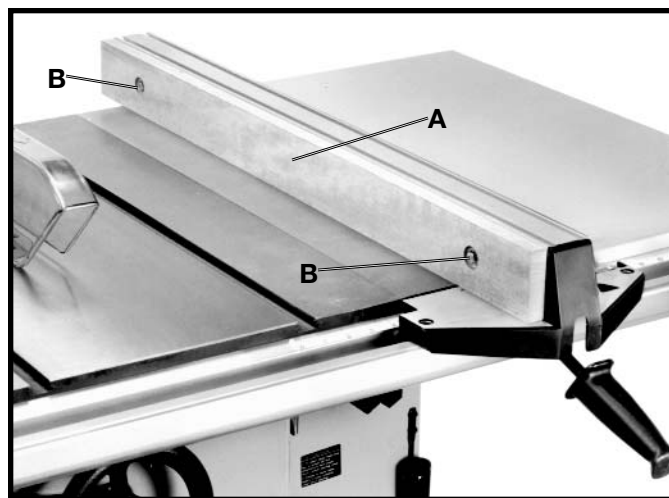

Fig. 94
CAUTION It is necessary when performing special operations such as moulding to add wood facing (A) Fig. 94, to one or both sides of the rip fence, as shown. The wood facing is attached to the fence with wood screws (B), countersunk and assembled through the holes provided in the fence. 3/4 inch stock is suitable for most work although an occasional job may require 1 inch facing.